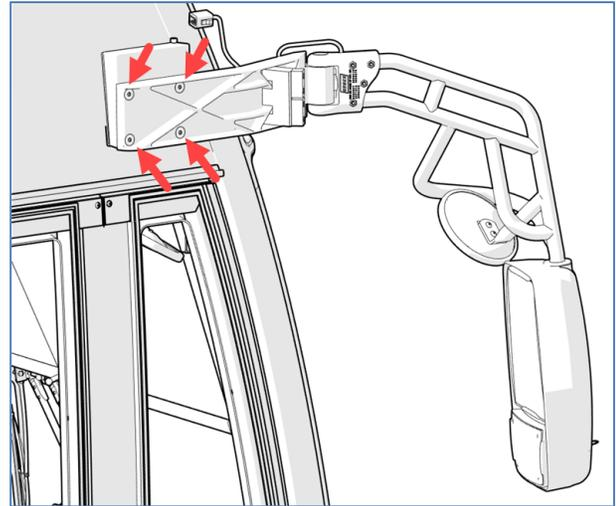
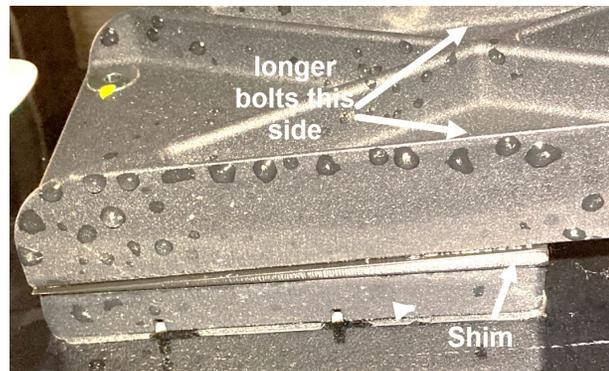

Figure 11
Figure 12
11. Remove the 4 screws fastening the mirror assembly (Figure 11) and install shim 492153 as shown on Figure 12.